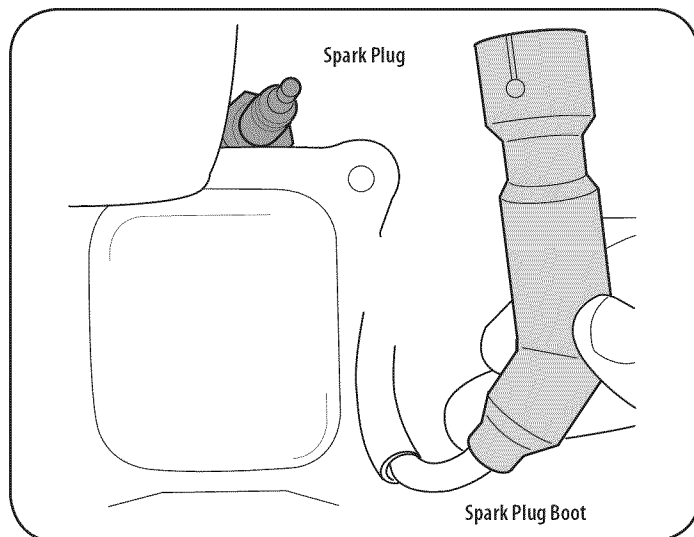

Figure 16
1. Remove the spark plug boot and use a spark plug wrench to remove the plug. See Figure 16.